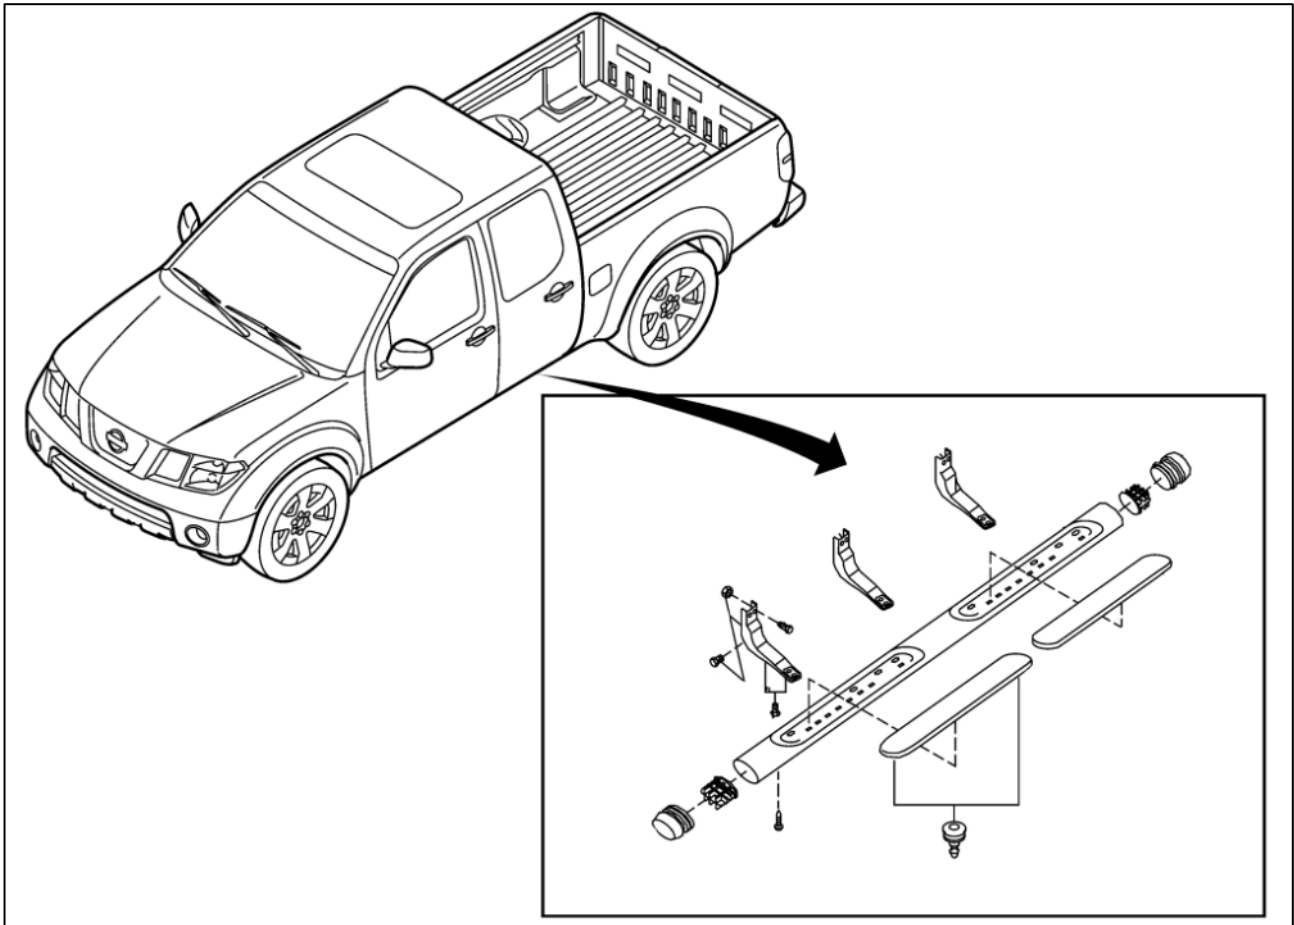

Figure 6
11. Remove the OE Running Boards or any Rock Sliders if equipped. Use *Figure 6* for a fastener location reference.